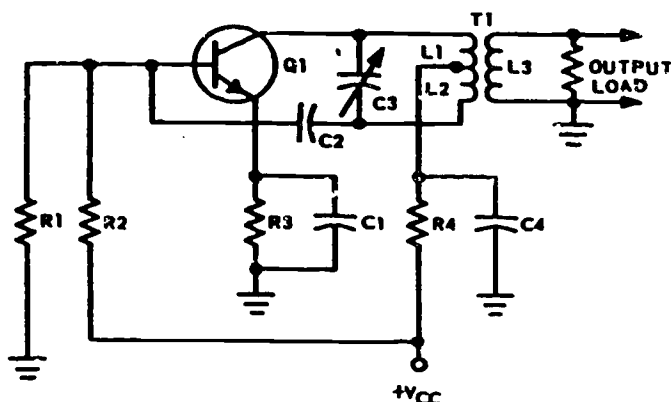

Figure 2-10. Series-Fed hartley oscillator.
Hartley Oscillator, Series Fed. One of the most common oscillator circuits is the Hartley: series fed and shunt fed. We will first discuss the series-fed Hartley oscillator. Refer to figure 2-10 for the components.
2. Refer to figure 2-10. The purpose of R3 is to act as a _____ for thermal _____.
3. Refer to figure 2-10. Regenerative feedback from the collector to the base of _____ is through _____ action between L1 and L2.
4. Refer to figure 2-10. The signal on the base is going in a positive direction; the signal coupled back is _____ with the original; and it is _____.